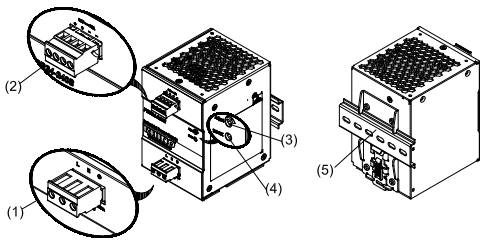
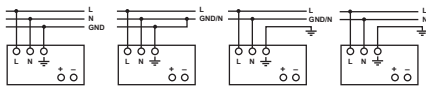

Figure 1
Figure 6
2. Device description (Fig. 1)
5.1. Input connection (Fig. 1 (1), Fig. 6)
Use L, N and GND connections of input terminal connector (see Fig. 1 (1)) to establish the 100-240 VAC connection.
5.2. Output connection (Fig. 1 (2))
Use the "+" and "-" screw connections to establish the 24 VDC connection. The output provides 24 VDC. The output voltage can be adjusted from 24 to 28 VDC on the potentiometer. The green LED DC OK displays correct function of the output (Fig. 1 (5)). The device has a short circuit and overload protection and an overvoltage protection limited to 35 VDC.